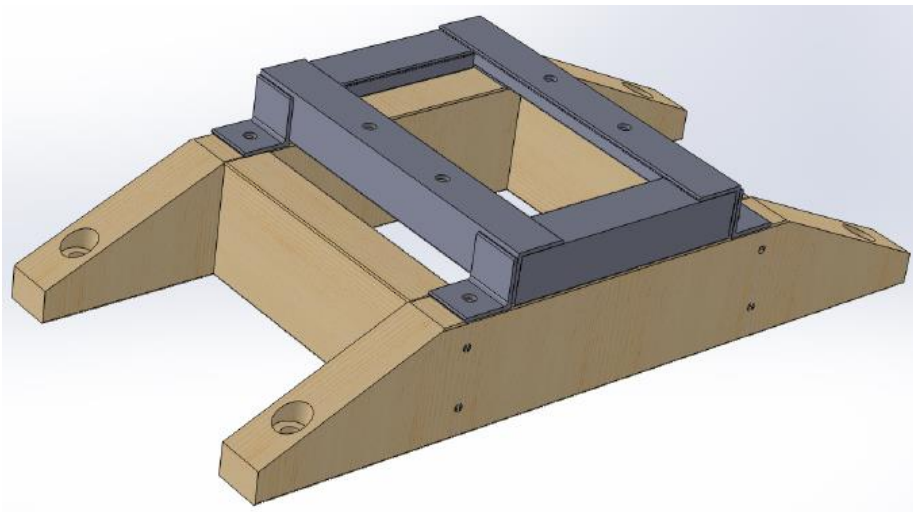

Figure 3. Engine stand assembled.
- ☐ **Be able to be mounted on the wooden base as illustrated in Figure 3.**